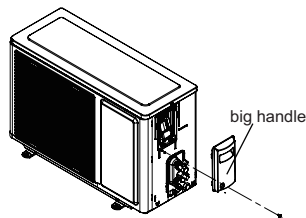

Fig.21
- (1) Remove the screw on the right handle of outdoor unit and then remove the big handle.(As show in Fig.21)